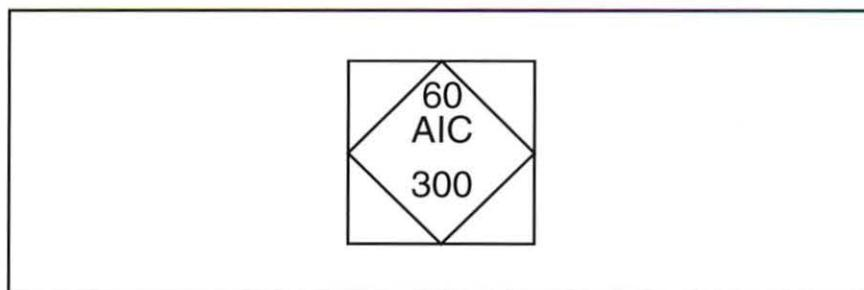

Figure 85. Instrument Tag
12. Perform the following substeps to interpret the information on the instrument tag in figure 85.
- A. Determine the type of device indicated by the tag in figure 85.
- B. Determine where the device indicated by the tag in figure 85 is located.
- D. Determine what the device indicated by the tag in figure 85 is measuring.
- E. Determine the loop in which the device is located, according to the tag in figure 85.
- F. Determine the area in which the device is located, according to the tag in figure 85.
- G. Determine the modifiers of the device tag in figure 85.